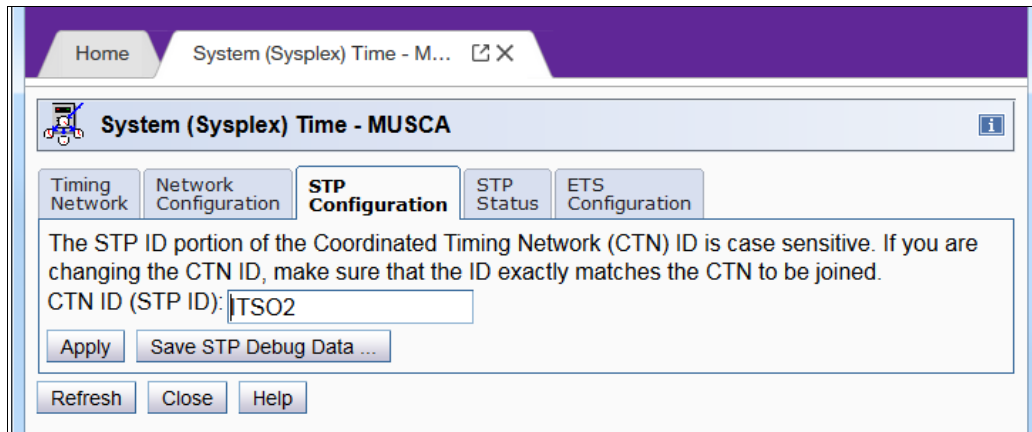

Figure 5-42 System (Sysplex) Time: STP Configuration
15. Click the **STP Configuration** tab to display or set the CTN ID (STP ID) (see Figure 5-42).